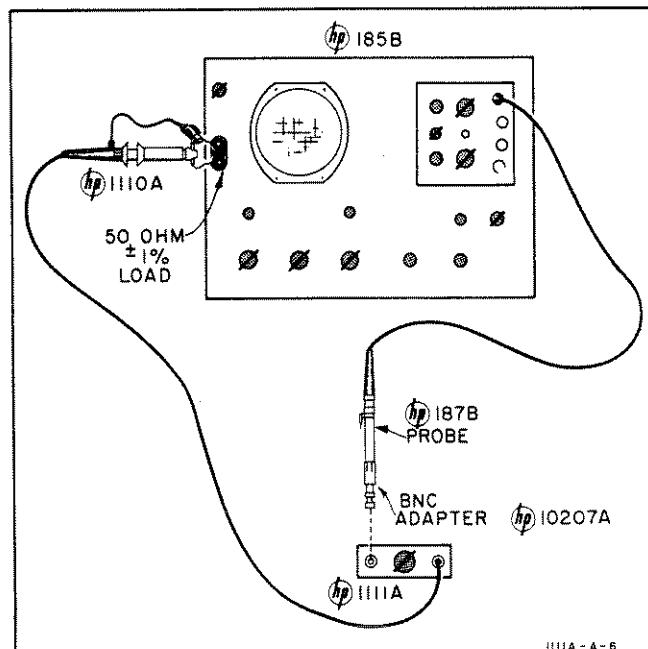

Figure 5-4. Rise Time Check Setup
a. Refer to Table 5-1 and Figure 5-4 and connect specified equipment, items 3 6, and 9. The  $50 \Omega$  load is connected to the oscilloscope sync pulse output.